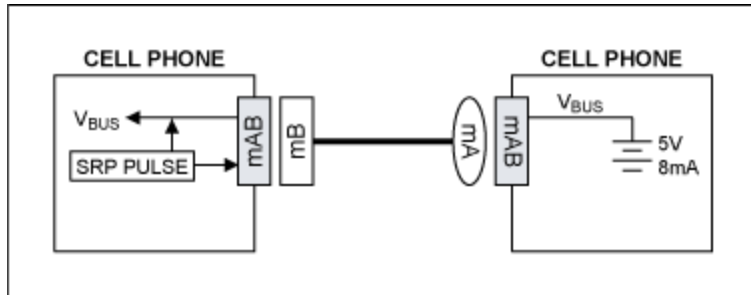

Figure 4. OTG Session Request Protocol (SRP).
**Figure 4** shows a common OTG application: two cell phones connected together to exchange information. The right phone received the mini-A end of the cable, making it the A-Device and thus defaulting into the host role. The left phone is the B-Device, defaulting to peripheral. If there is no need to communicate over USB, the A-Device can power down the  $V_{BUS}$  wire, which the B-Device can detect so that it too can enter a low-power state.